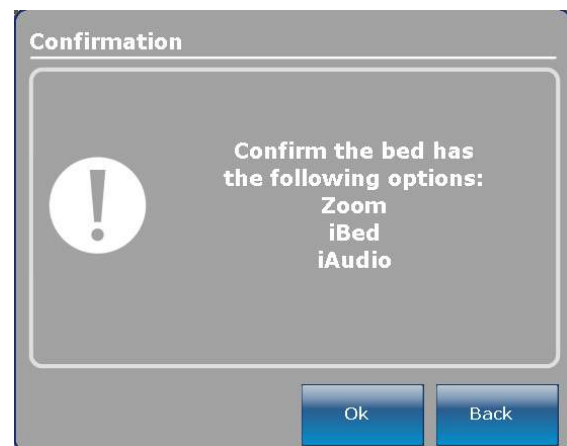

Figure 31: Bed Options Confirmation Screen
3. After pressing **Continue** in step 2, a confirmation screen as shown in Figure 31 will be displayed verifying the options you selected.
5. Cycle the power to the bed by first turning the battery disconnect switch to **OFF** (O) then unplug the power cord from the wall outlet. Plug the power cord back into the wall outlet and then turn the battery disconnect switch back **ON** (I).